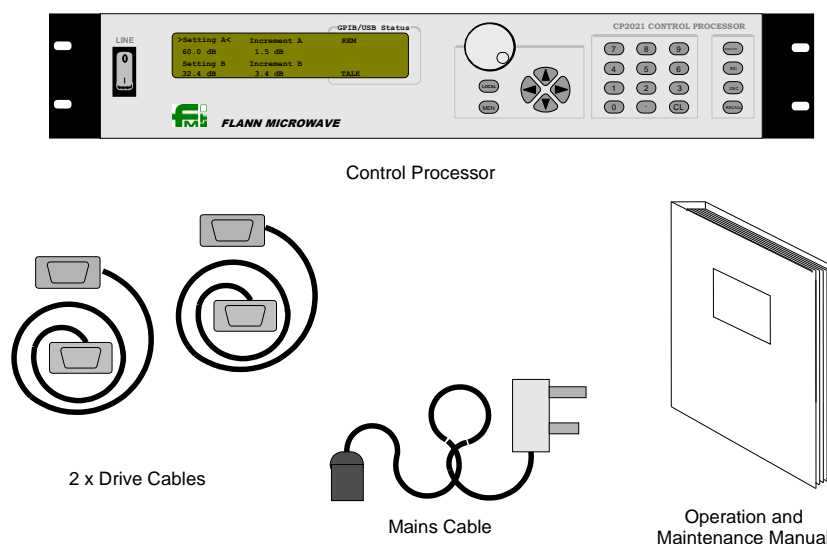

Figure 1: Contents of Shipping Container
2. Verify that the shipping container contains everything shown in Figure 1.